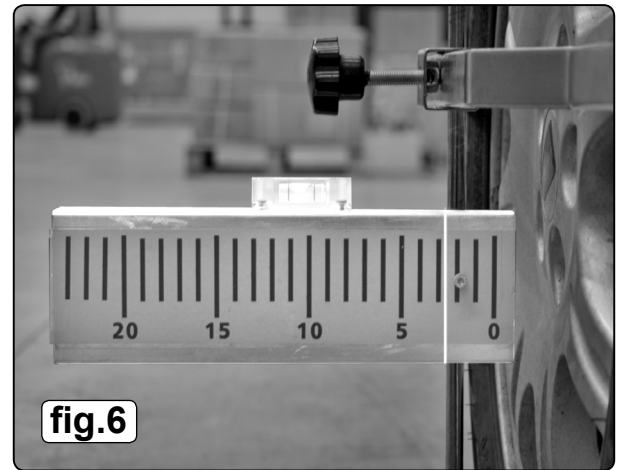

fig.6
- 5.1.5 Turn on both front laser measuring heads. Now look to rear flags, refer to fig.6, you will have a reading on both sides, (the readings may not be the same). If you have two different readings on the rear flags, this means you now have to adjust both front track rod ends. You are now ensuring that the front wheels are in line with the rears.